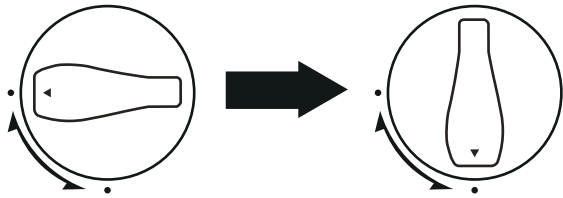

Figure 2.1
2. Twist the expired filter counterclockwise to " • ". [Figure 2.1]